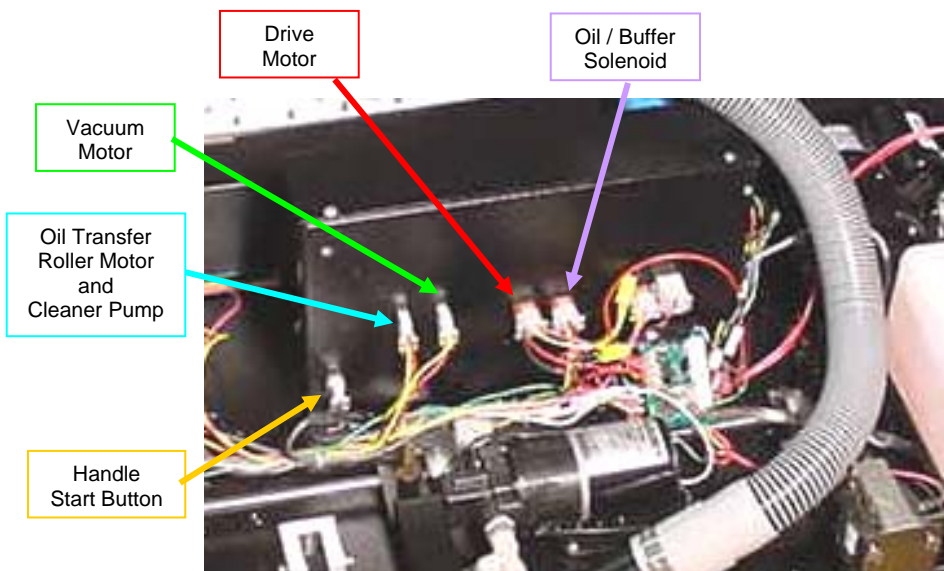

Figure 3-3
3. Locate the drive motor connector on the side of the control enclosure near the Vac Head. The drive motor connector is the third connector from the left, as shown in Figure 3-3.